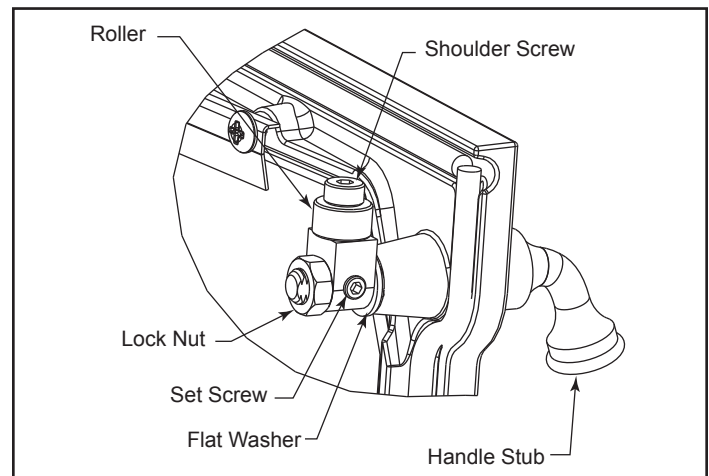

Figure 13 - Rotate pawl and/or remove flat washer to adjust latch.
1. Remove and retain the lock nut with a 9/16" wrench. (Figure 13)